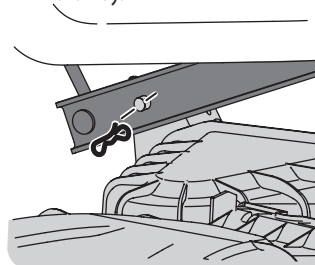

Figure 22
Looking at the deck from the left side of the tractor, locate the bow-tie pin on the rear left side of the deck. See Figure 22.
4. Remove the pin and slide the deck pin out of the deck lift arm. See Figure 22.